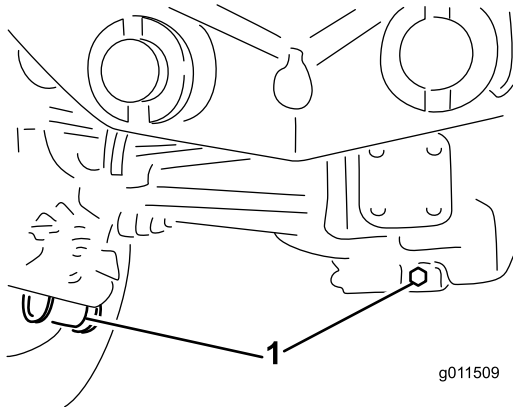

Figure 69
2. Clean the area around the 3 drain plugs; 1 on each end and 1 in the center (Figure 69).